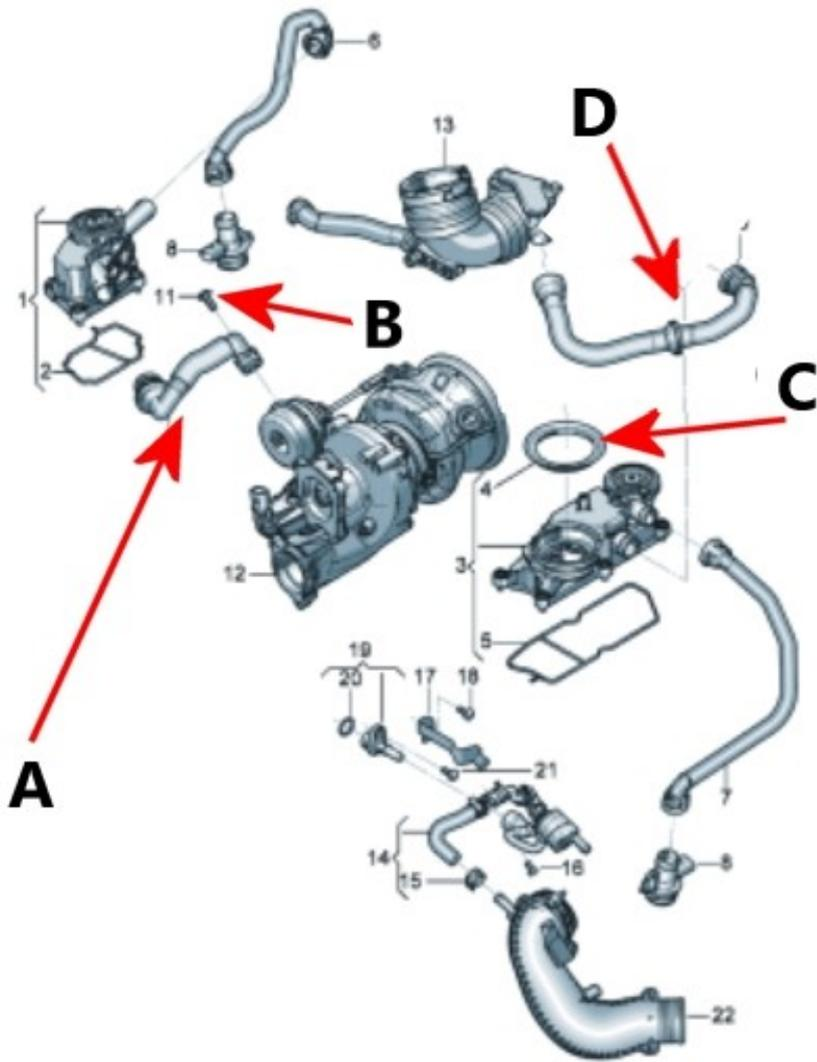

Figure 2
2) Referring to Figure 2 - Replace the following: